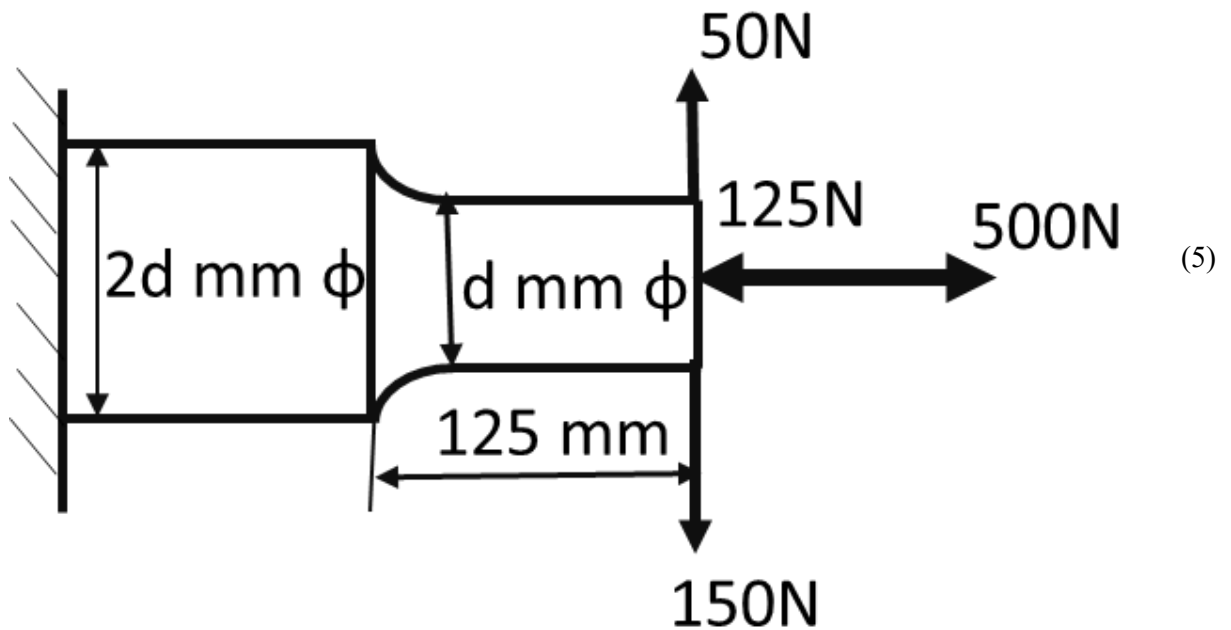

Figure 1
- 1) A steel cantilever member shown in figure 1 is subjected to a transverse bending load at its end that varies from 50 N to -150 N, and an axial load varies from -125 N to 500 N. Determine the required diameter at the change of cross section for infinite life assuming factor of safety 2.